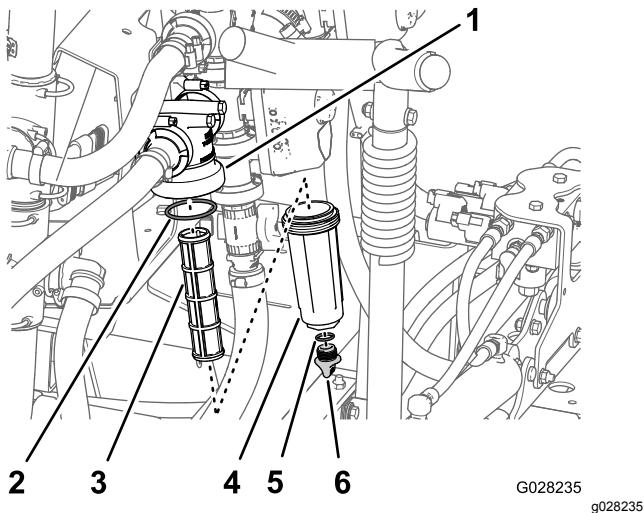

Figure 82
2. Align a drain pan under the pressure filter (Figure 82).
3. Rotate the drain plug counterclockwise and remove it from the bowl of the pressure filter (Figure 82).
4. Rotate the bowl counterclockwise and remove it from the filter head (Figure 82).
5. Remove the old pressure filter element (Figure 82).
6. Check the O-ring for the drain plug (located inside the bowl) and the O-ring for bowl (located inside the filter head) for damage and wear (Figure 82).
7. Install the new pressure filter element into the filter head (Figure 82).
8. Install the bowl onto the filter head hand tight (Figure 82).
9. Install the plug into the bowl hand tight (Figure 82).